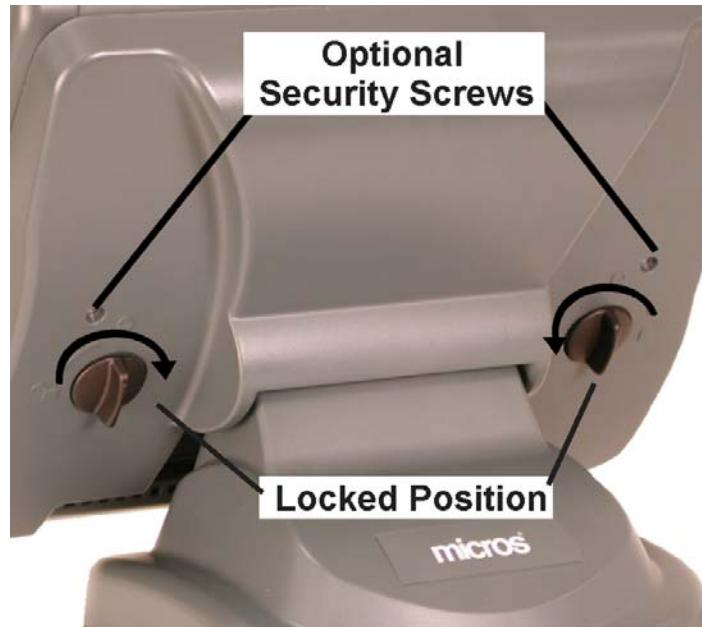

Figure 4-9: Securing the Workstation to the Adjustable Stand
4. When the workstation is fully seated on the stand, turn the knobs on the rear of the stand to the 'Secured' position as shown in Figure 4-9.